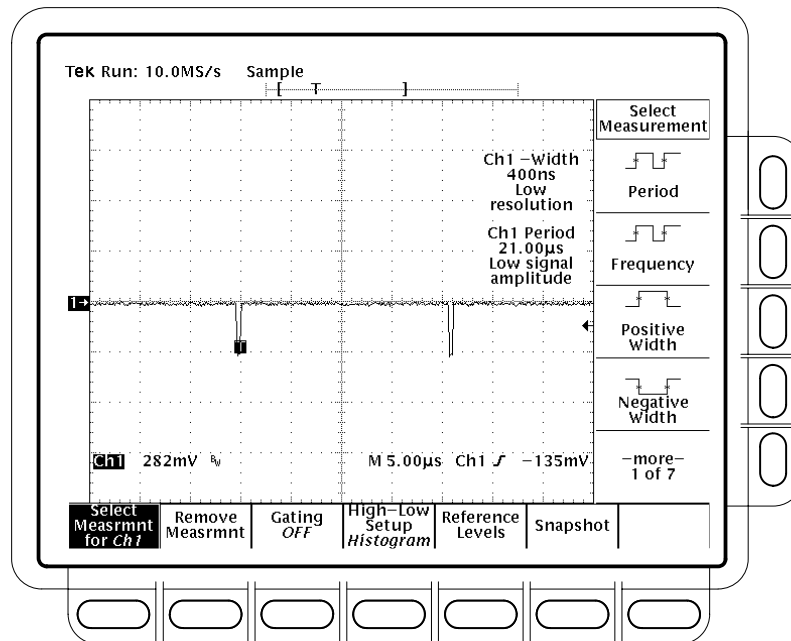

Figure 1-39: Sync Duty Cycle Test: Critically Adjusted Pulse
- Turn the pulse generator **PERIOD** variable control to adjust the period until the oscilloscope **CH1 Period** measurement reads **21.000µs -25/+50 ns**. See Figure 1-39. Read note shown below.